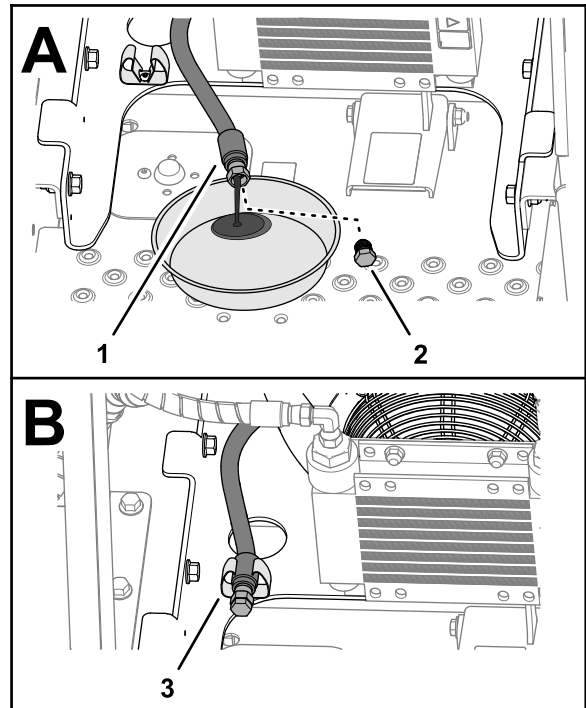

Figure 72
- Align the oil-drain hose out the left side of the machine, and remove the plug from the hose (Figure 72).
- Install the drain plug into the hose, and tighten the plug (Figure 72).